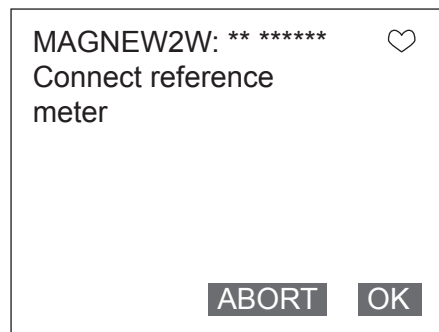

Figure 7-60
3. Figure 7-60 will then appears. Connect the device to measure excitation current to the both ends of the excitation check pin and then press F4 (OK).